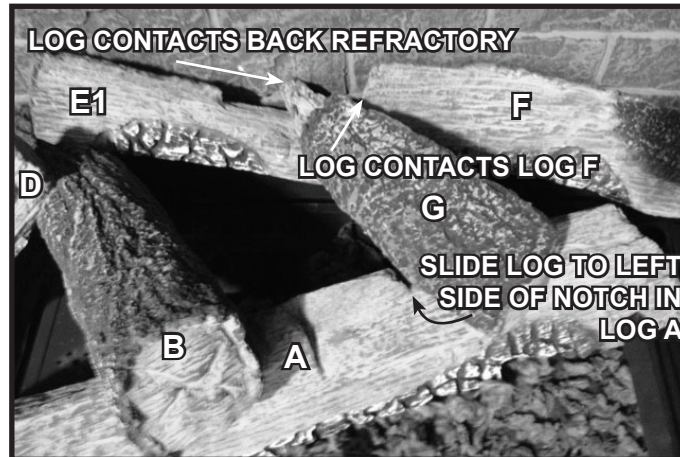

Figure 11. Log G Installed
7. **(LOG G):** Place Log G into appliance as shown in Figure 11. The narrow end of the log will contact the back brick refractory, or be about 1/2 inch away from the optional black glass refractory, and the right side contacts Log F. The front of Log G rests in the notch of Log A. Log G should be positioned to the left side of the notch in Log A.